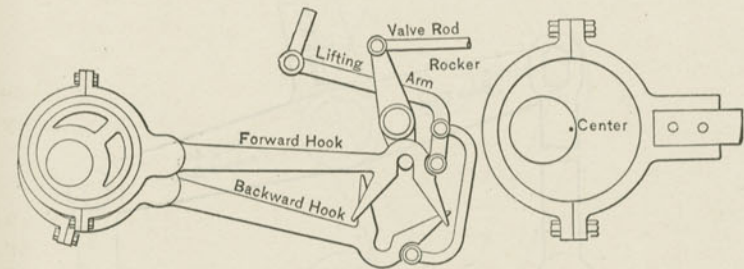

Fig. 273. Hook Valve Motion.
A. One in which the valve stem receives its motion (1) from a vibrating member, as the connecting rod, or (2) from a reciprocating one, as the piston rod, instead of from a rotating one, as an eccentric.
A. As seen in one form in Fig. 273, an arrangement in which throwing the lever forward held the backing hook out of reach of the rocker pin and let the forward one drop in. There was a starting bar to move the valve